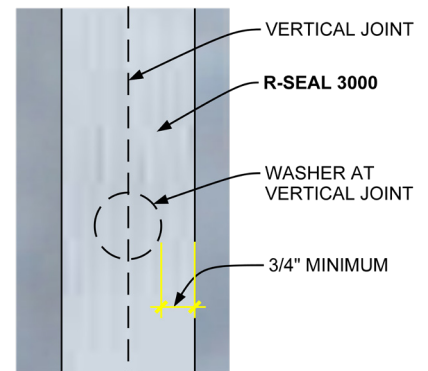

Figure 5
- H. Joint Fasteners: Fully cover with R-SEAL 3000 to maintain a minimum of 3/4" adhesion to facer beyond washer edges. **Reference Figure 5.**
- I. Field Fasteners: When NOT using Rodenhouse, Inc. Thermal-Grip®ci Prong Washers and Grip-Deck® Self-Drilling Screws, field fasteners must be covered by R-SEAL 3000. Cut 4" by 4" square pieces of R-SEAL 3000 tape at a minimum and apply on top of all insulation board field fasteners. Maintain a minimum 3/4" adhesion radially beyond washers, similar to **Figure 5.**